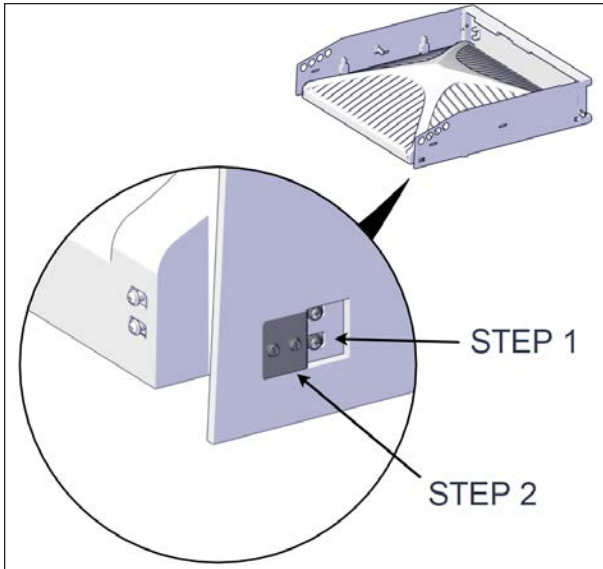

FIGURE 29: COVER BRACKET REMOVAL
- Substep 3: Repeat steps 1 and 2 for all four corners see Figure 29.